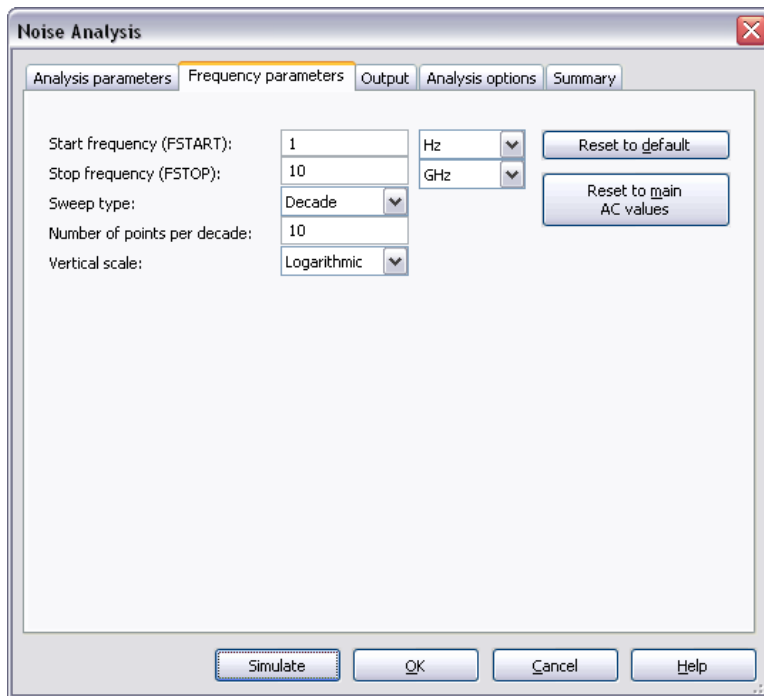

Figure 3. Frequency parameters.
1. Select the **Frequency Parameters** tab. Leave the default settings as shown in Figure 3 (these settings are appropriate for most cases).